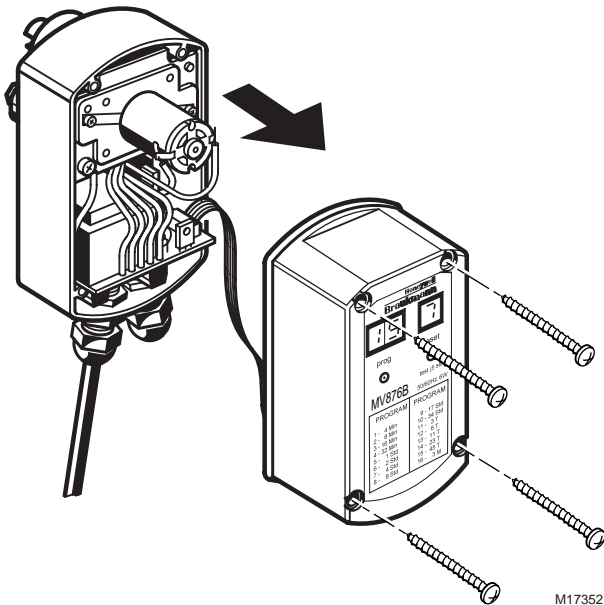

Fig. 11. Removing the MV876 cover.
1. Unscrew the four housing screws and set them aside. See Figure 11.
2. Remove the MV876 cover. See Fig. 11.
1. Unscrew the four housing screws and set them aside (see Fig. 11).